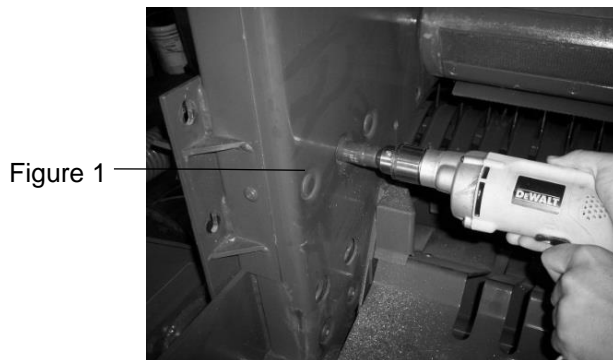

Figure 1
2. If your baler is not equipped with bale shaping pads you will need to drill a hole in the chamber directly behind and above the starting roll (Figure 1).